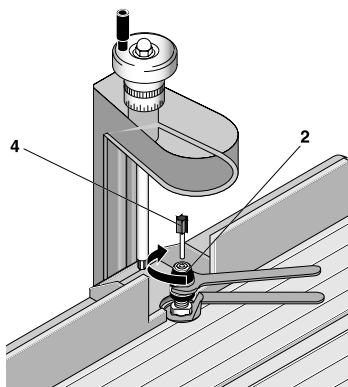

Fig. 3b
3. Insert the matching profiler 4 (Fig 3b).
4. Tighten the swivel nut as shown in Fig. 3b.
1. As shown in Fig. 3b, loosen the swivel nut, but do not unscrew it.